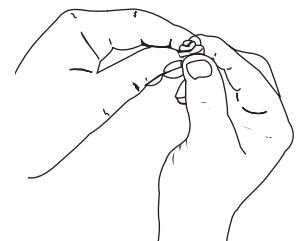

Fig. 31
5. Squeeze the filter to spread and remove excess oil (Fig. 31).
13. Reinstall the muffler cover. Slip the rear tab on the muffler cover into the engine cover rear slot. Then slide the remaining slots into the tabs until they snap into place (Fig. 31).